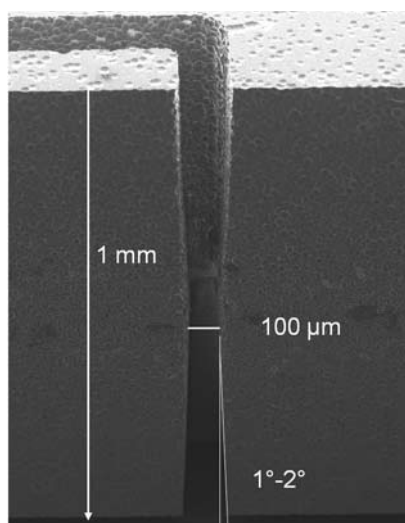
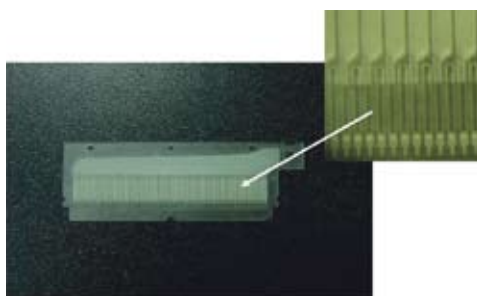

Figure 1. Cross-section of a channel etched into FOTURAN.
Figure 2. 128 Nozzles (each with 35 x 35 µm² cross-section) with integrated sonic chambers and backstop valves. (Bonded without adhesive, 100 pl output)
*Photosensitive* glass (PSGC) like FOTURAN makes it possible to induce an anisotropic behaviour. This is done by exposing the glass to a collimated UV light/laser with the appropriate energy and geometry, subsequently heat-treating it, then etching the meta-silicate using HF; such structures can have up to a 30:1 aspect ratio; see Figure 1. Post etching, the substrates can be functionalised, then bonded together with other structures to form closed active micro-electrical-biological devices; see Figure 2.